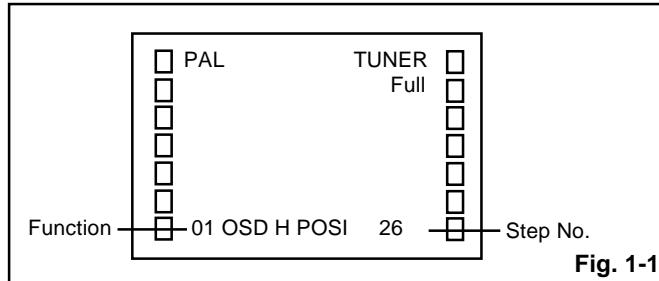

Fig. 1-1
2. Press the VOL. DOWN button on the set and the channel button (9) on the remote control for more than 2 seconds to display adjustment mode on the screen as shown in **Fig. 1-1**.